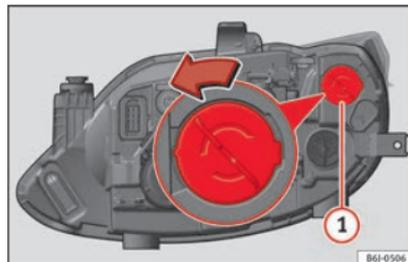
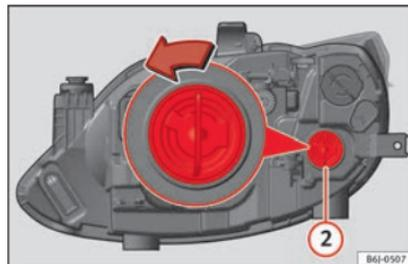

Fig. 92 Single headlight DRL light (day light).
Fig. 93 Single turn signal lamp.
- Turn the bulb holder **»» Fig. 92 1** or **»» Fig. 93 2** to the left and pull.